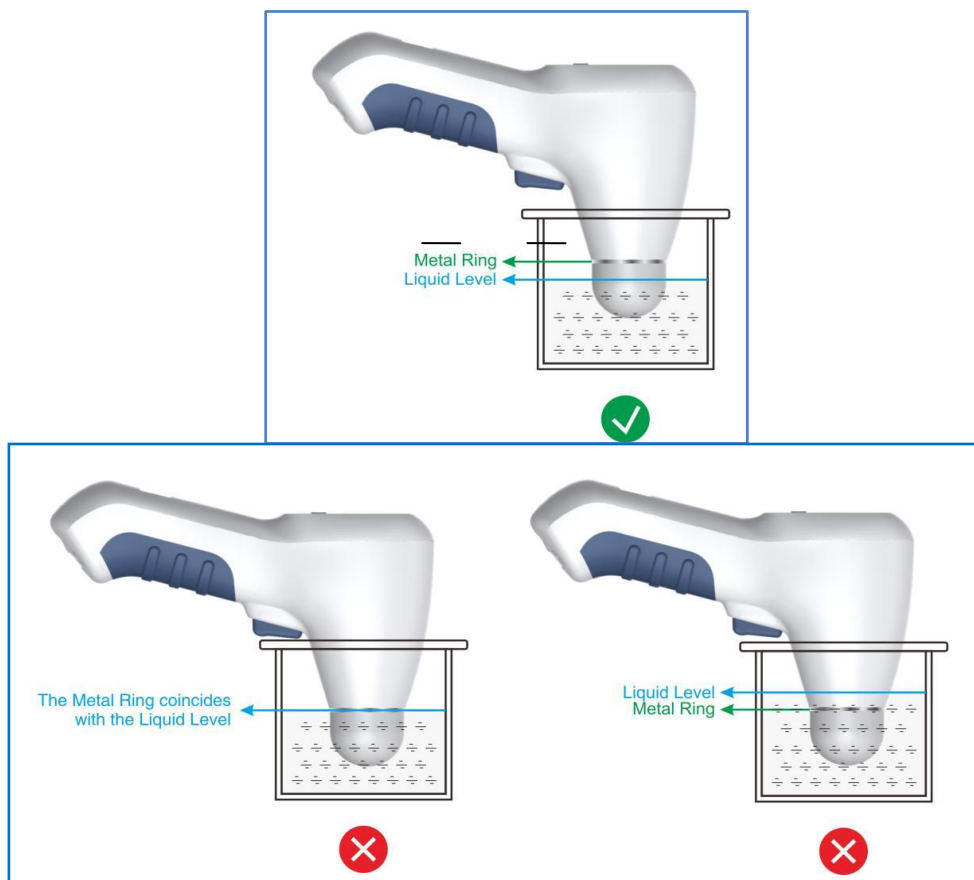

Fig. 5.1: Protection against Ingress of Liquid
See Fig. 5.1, the part under the metal ring is at an IPX7 level; the part above the metal ring is at an IPX1 level.
6. The part above the metal ring on the housing of the Main Unit shall not be dipped into water or other liquids. See Fig. 5.1.